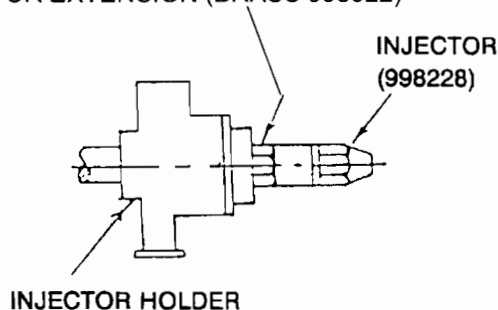

FIG. 1
3. Inside the building the heater must be fixed to an external wall, observing the clearance distances in Fig. 1 so that sufficient access is left for servicing. Note that if the heater is sited too high up the wall, poor heat distribution will result.
2. Remove the two screws located at the bottom of the dressing strip and slacken the two screws located behind the top louvre, Fig. 1. Pull the case away from the bottom of the heater and lift the case off the top screws. remove the dressing strip.